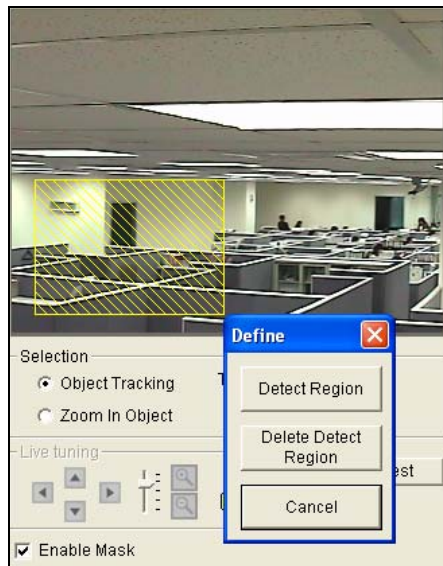

Figure 1-71
6. Select **Define Detect Region** from the drop-down menu. Use the mouse to outline a detection region in the right screen; you will be prompted to enter **Detect Region**. See Figure 1-71.